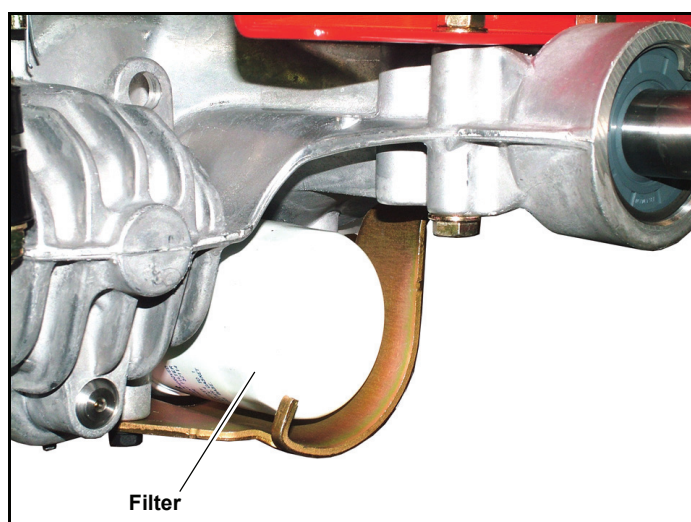

Fig. 4-2
Each transmission's filter is located per Fig. 4-2. A standard oil filter wrench is used to change filter, threads are right handed. **Use a BigDog™ Mowers approved filter element only.**
3. Locate the oil drain hose that was supplied with the machine. Be sure to clean and clear it of debris that might block the flow of the engine oil. Fig. 4-2